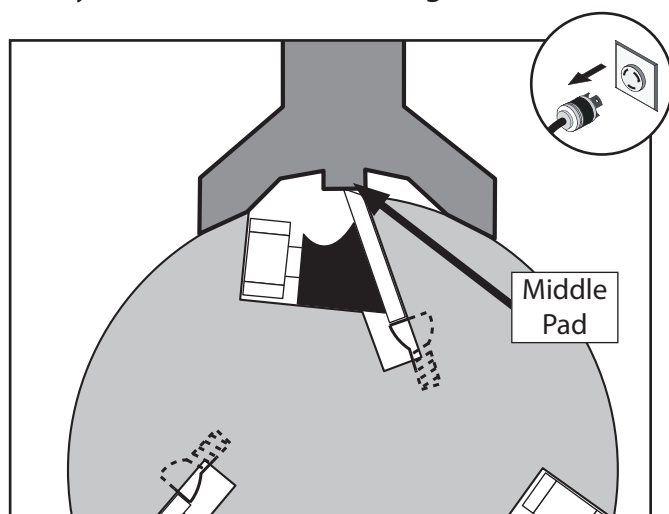

Figure 26. Gauge positioned over cutterhead knife.
3. Place the knife gauge on the cutterhead, directly over a knife, as shown in **Figure 26**.
6. Position the knife gauge over the knife as shown in **Figure 26** and loosen the gib bolts until the knife is completely loose.